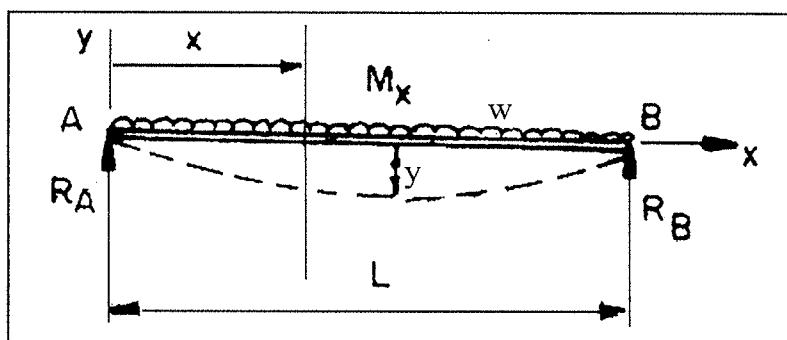

Fig. 5 A simply supported beam of length L
State the mathematical relationships that exist between the uniformly distributed load intensity (w), the shear force (V), and the bending moment (M) at any cross-section of a beam located at a distance (x) from one end (Refer **Figure 5**).
A simply supported beam of span (L), as shown in **Figure 5**, is subjected to a uniformly distributed load of intensity (w) over the entire length. Using the **double integration method**, determine the deflection at the mid-span of the beam.